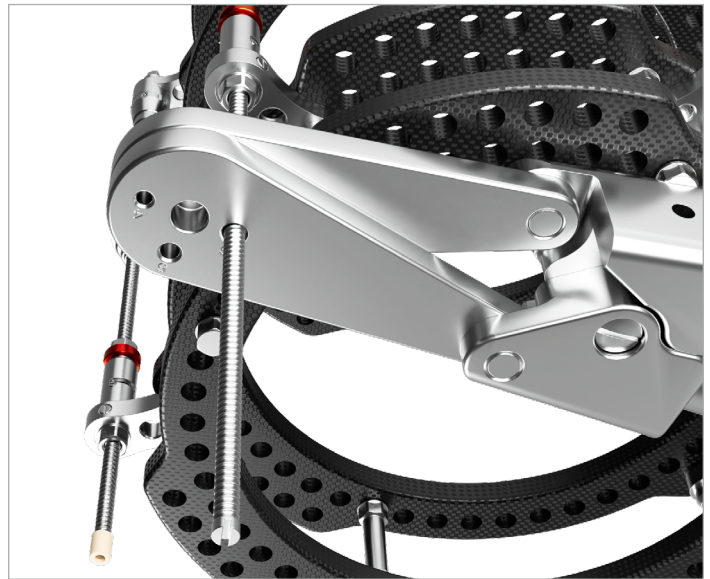

Figure 190
- Once the distal ring is definitively locked into position, excess rod length can be cut off using a rod cutter. **(Figure 190)**